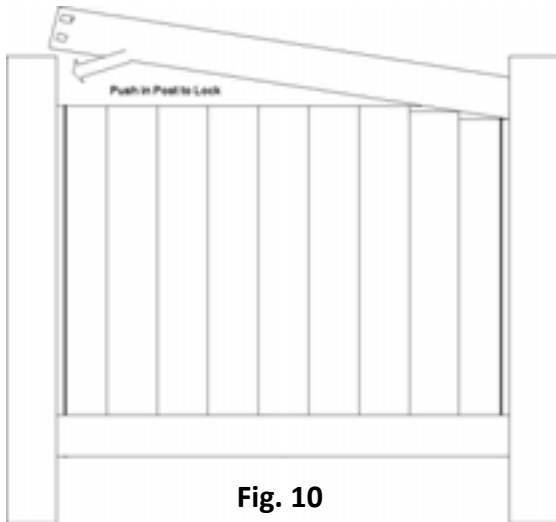

Fig. 10
Step 4. If the rail is going into a post, which will be filled with concrete, seal the ends of the rail with duct tape to prevent concrete from flowing into it. Place one end of the top rail into the post and work your way down the panel, inserting pickets into the top rail as you go (Fig. 10).